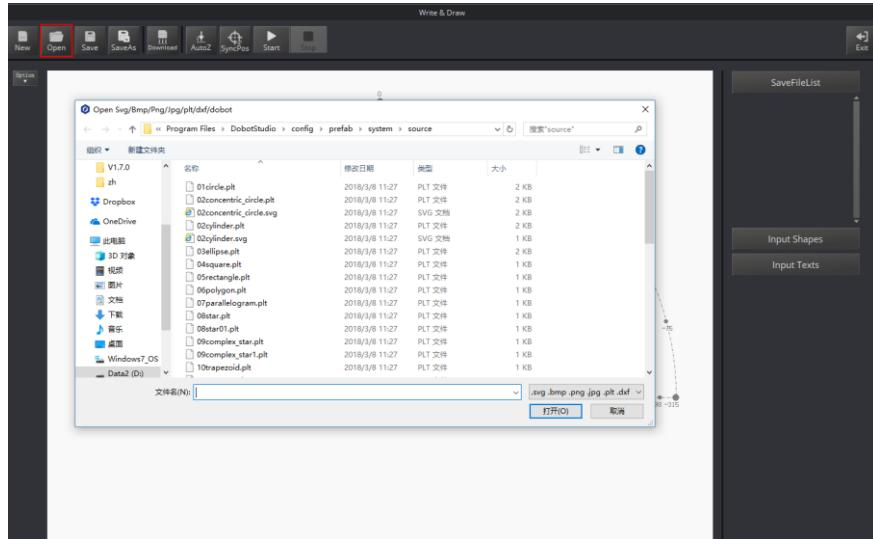

Figure 5.61 Open a PLT or SVG file
- Click **Open** on the **Write & Draw** page to import a built-in PLT or SVG image file from the DobotStudio installation directory **Installatondirectory\DOBOTSTUDIO\config\prefab\system\source**, as shown in Figure 5.61. You can also import your custom PLT or SVG image file.